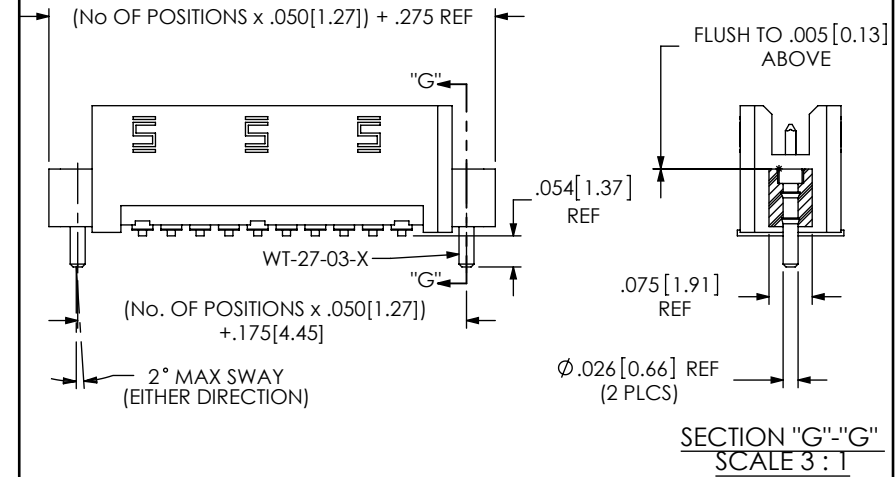

FIG 8
- ** -SN: SOLDER NAIL (USE WT-27-03) (NOT AVAILABLE WITH -A, -LC, OR -WT OPTIONS) (SEE FIG 8, SHEET 3)